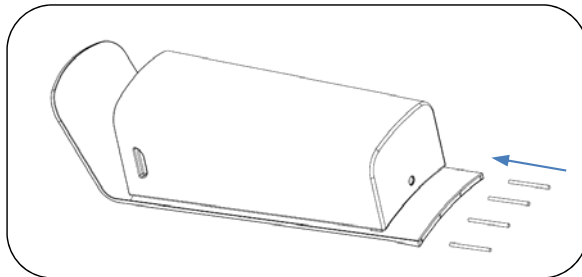

Fig. 1 – Single embed litter install threaded rods
1. For single unit, install four threaded rods into bottom of unit as shown in Fig. 1. For a double unit, the threaded rods are shipped installed.